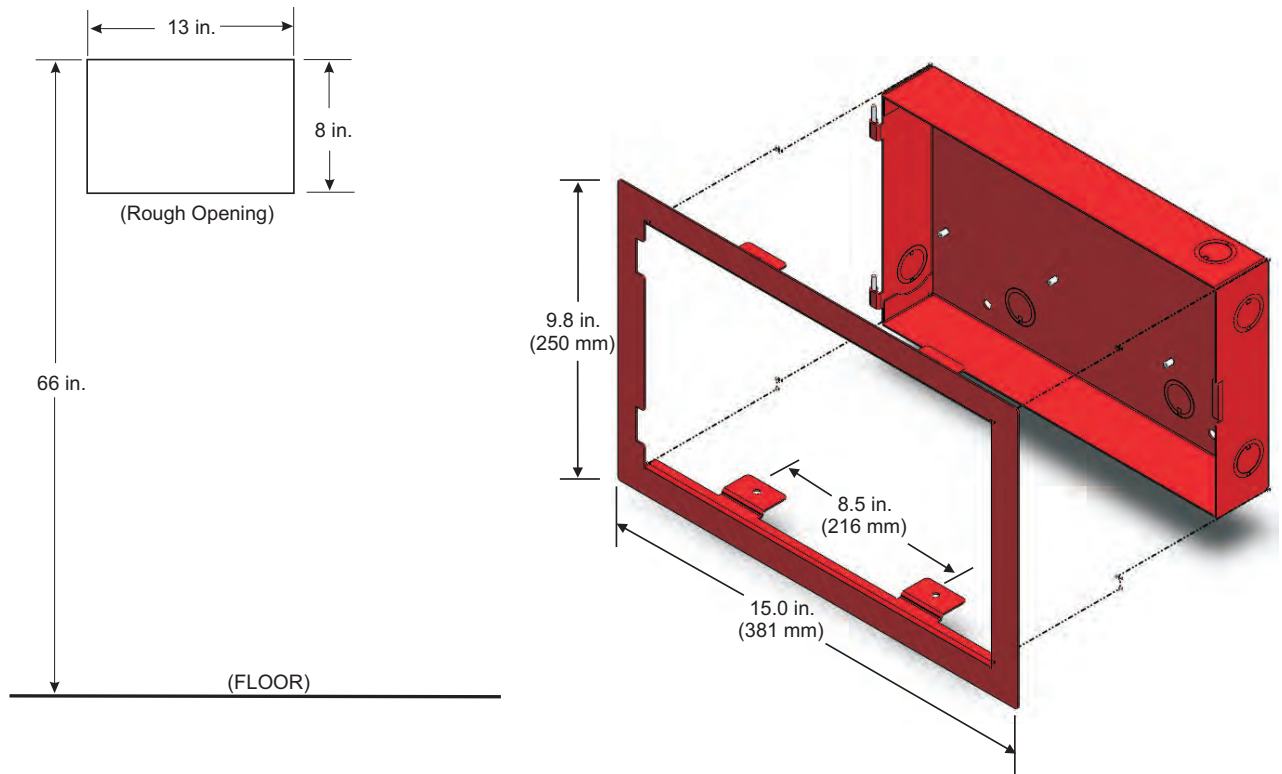

Figure 2-40. Semi-Flush Mounting of Remote Enclosure (shown without RDCM or R-LAM modules)
4. Cut and plumb an opening in the wall on which the Remote Enclosure will be mounted approximately 13 in. wide by 8 in. high (Refer to Figure 2-40.)